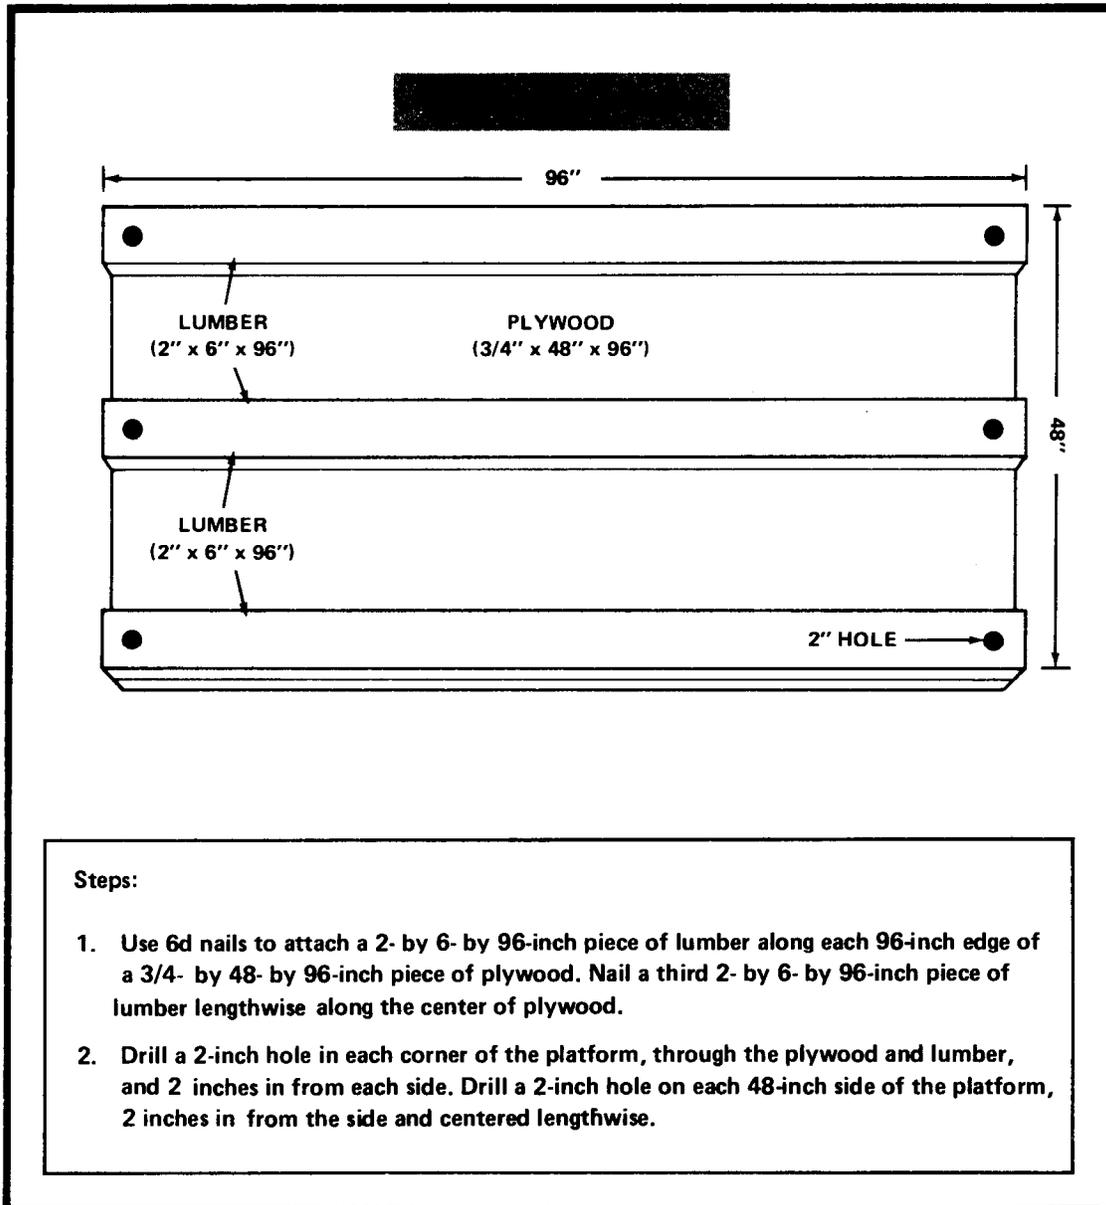

Figure 2-10. Construction details for stowage platform.
b. Build, position, and secure a parachute stowage platform as shown in figures 2-10 and 2-11.